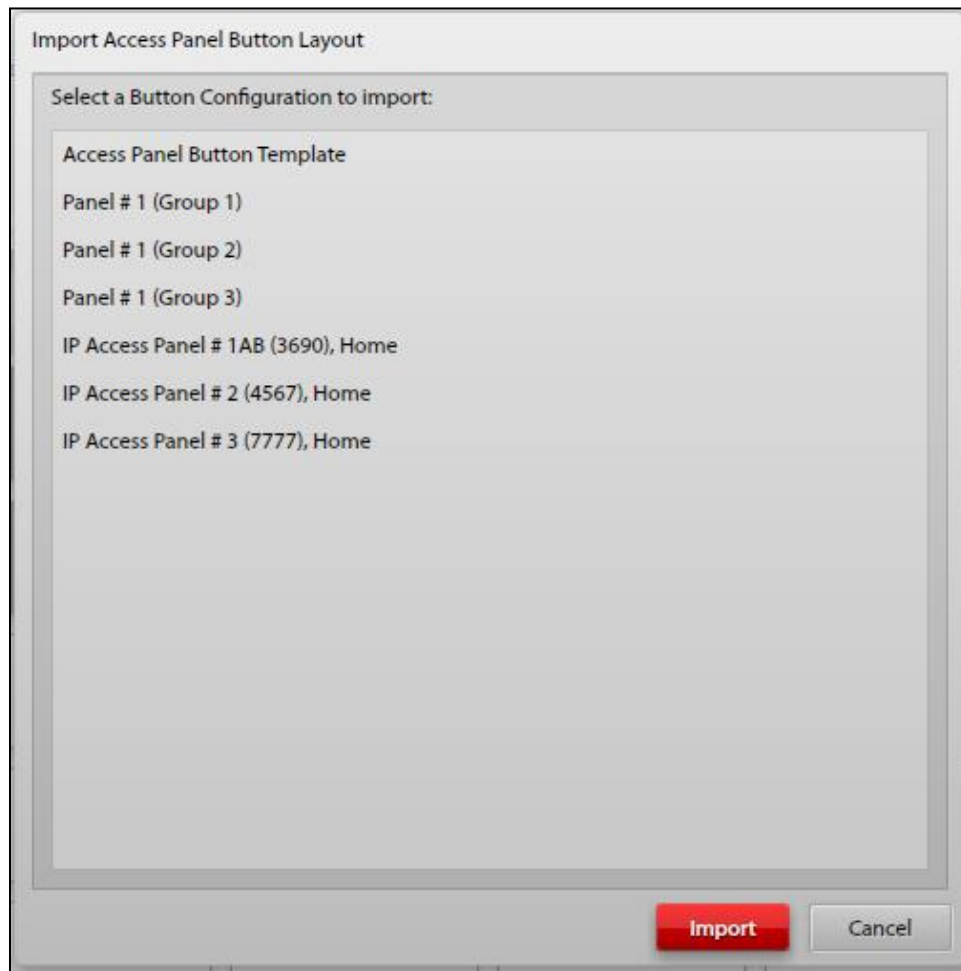

Figure 45. Import Access Panel Button Layout
- **IMPORT Button**—Imports access panel button layouts and overwrites the current button page with the buttons defined in the selected button configuration. Click **IMPORT** or **CANCEL** to complete the operation (see Figure 45).